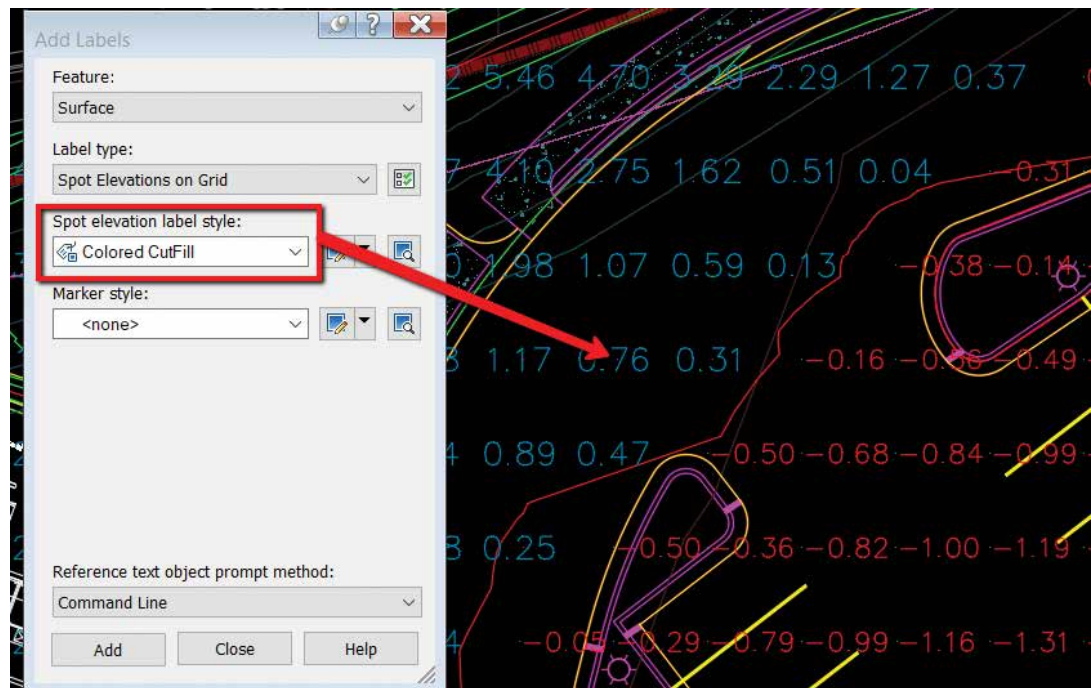

Figure 8
8. Test this out by using your new label style to label a surface!! See Figure 8.